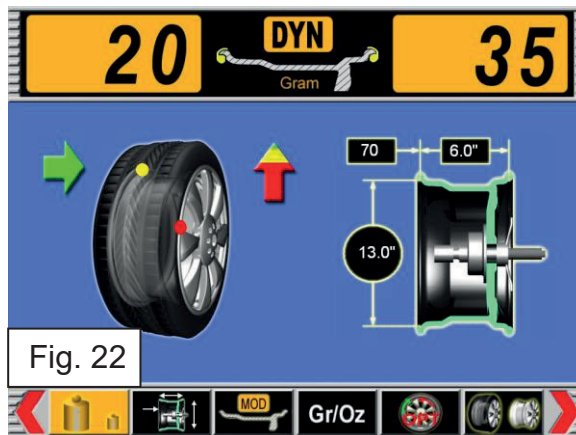

Fig. 22
na tela (ref. Fig. 22 e 23).
6.4.1.1.CORREÇÃO INTERNA (ref. fig. 22)